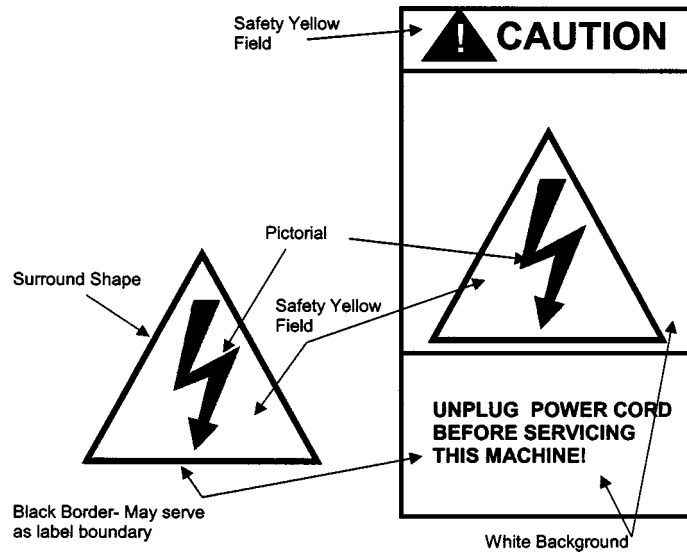

FIG. 2 Examples of Site Specific Labels and Pictorials—Vertical Orientation
5.2.3.1 *Label Orientation*—Vertical or horizontal label orientation may be used. (see Fig. 2).
5.2.3.2 *Pictorials*—Pictorials may be used provided they have been tested in accordance with ANSI Z535 for user acceptance and understandability and give the user immediate recognition of the applicable hazard(s). A signal word is not required if the proper surround shape is used in accordance with applicable ANSI standards. (see Fig. 2).